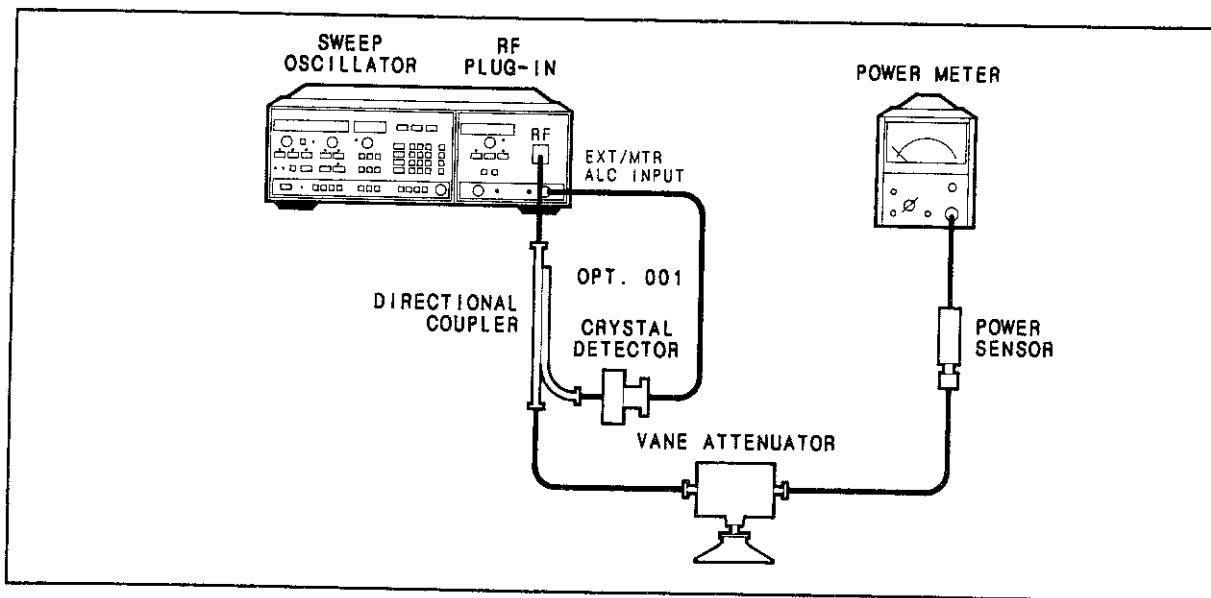

Figure 5-16. Power Calibration Adjustment Setup (Option 001)
1. Connect equipment as shown in Figure 5-16. Set the vane attenuator to 5 dB. Press 8350A/B [INSTR PRESET] [CW] [2] [6] [.] [5] [GHz]. Enter [SHIFT] [DET] and note that the HP 83572A/B CAL lamp is on. Slowly tune the CW frequency across the band